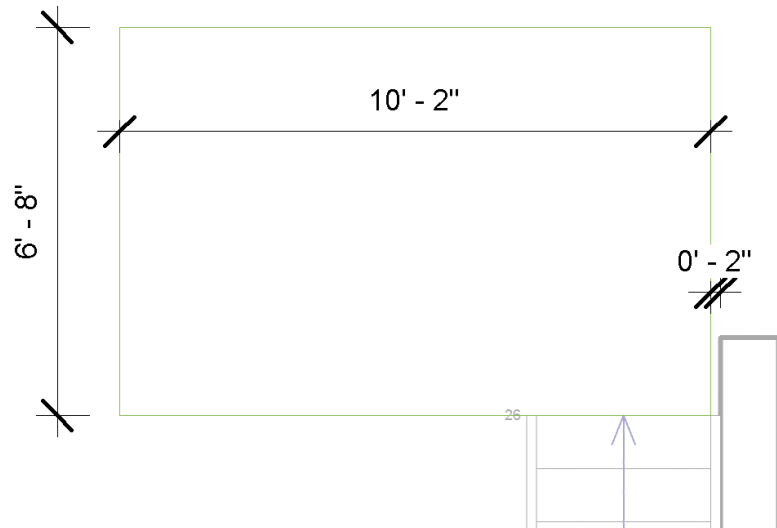

FIGURE 4.16 Revised landing sketch
11. Confirm that the Properties palette Relative Height parameter is set to 15'-0" (4570 mm). With the Draw option set to Boundary, sketch a second landing at the end of the second run, as shown in Figure 4.16.